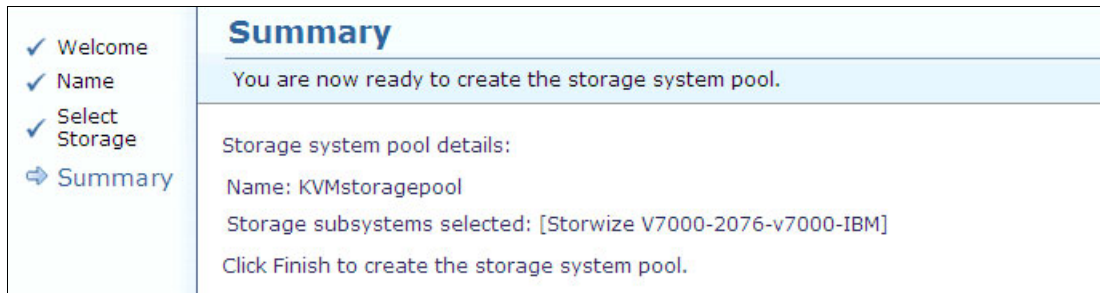

Figure 9-62 Storage system pool creation summary
5. Review the summary as shown in Figure 9-62 and click **Finish**.